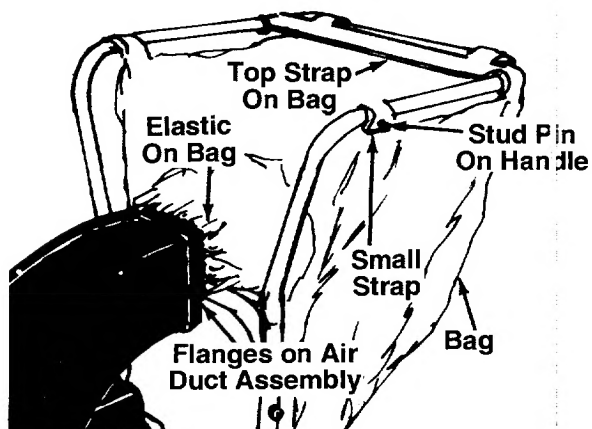

FIGURE 8.
2. Assemble the bag by slipping the top straps on bag over upper handle. Hook two small straps over stud pins on handle. Slip elastic opening of bag over air duct assembly. Be certain elastic on bag is placed over the flanges on air duct assembly. See figure 8. ←